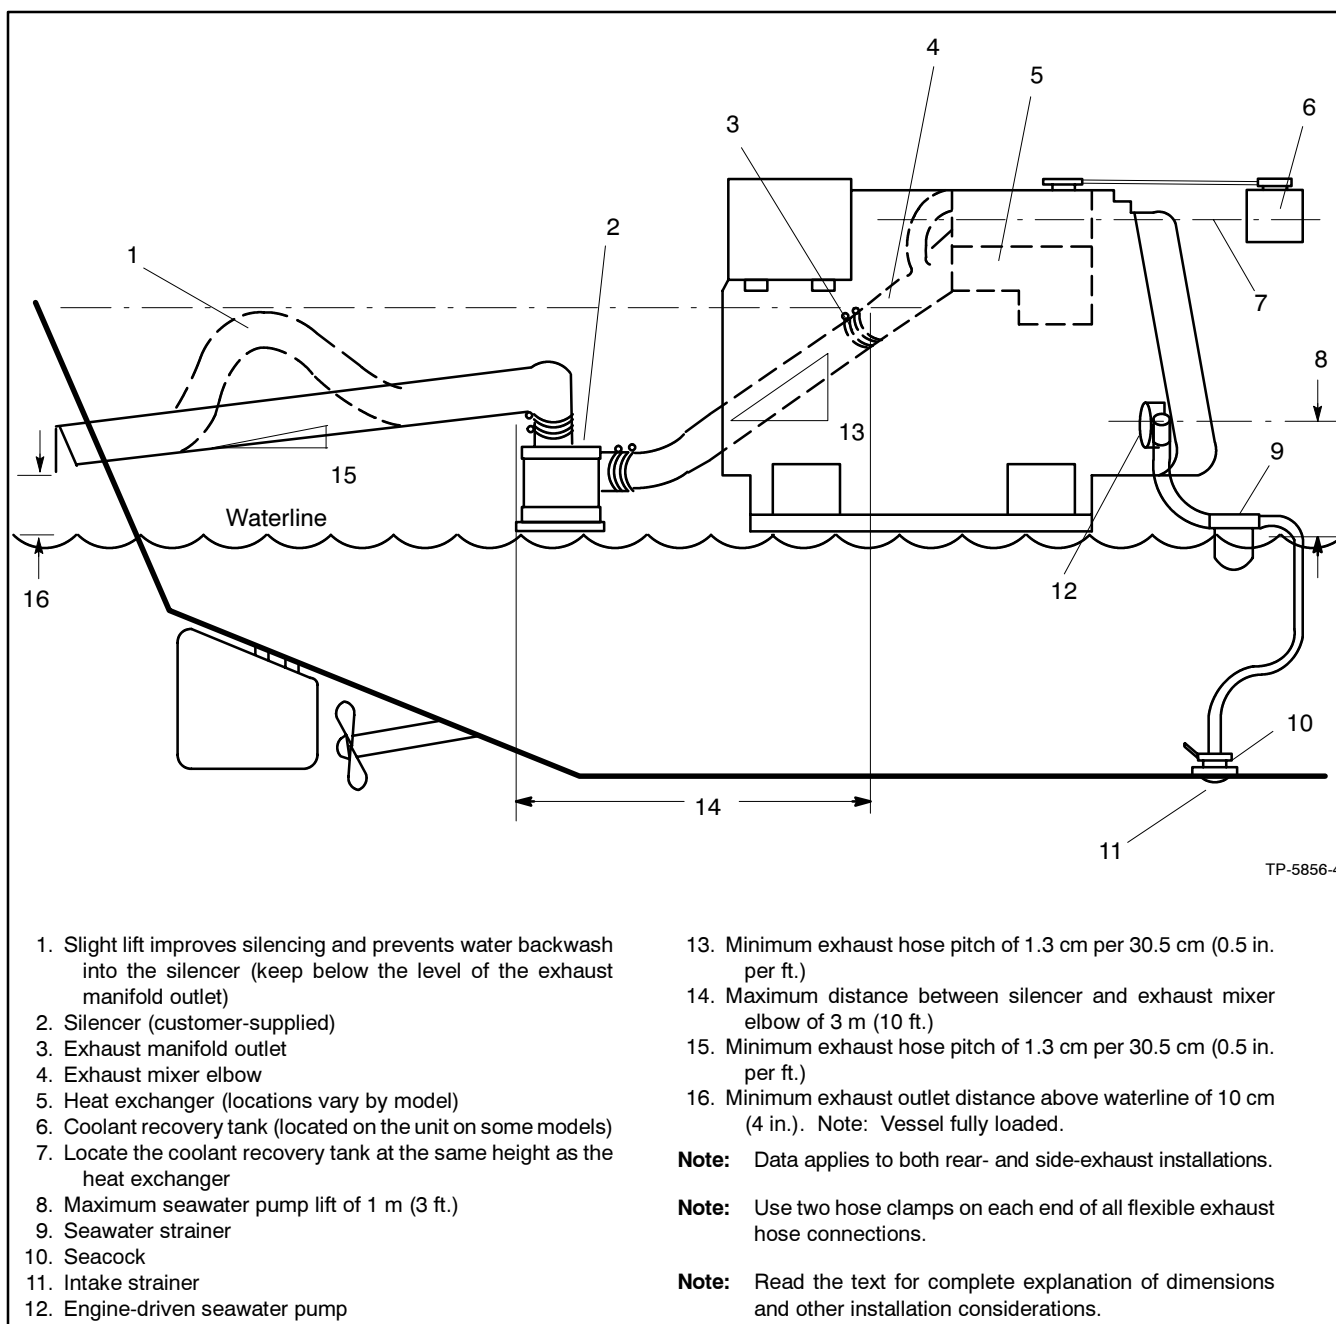

Figure 4-4 Typical Above-Waterline Installation
Locate the exhaust outlet at least 10 cm (4 in.) above the waterline when the craft is loaded to maximum capacity. Install an exhaust port with the flap at the exhaust (transom) outlet to prevent water backup in following seas or when moving astern (backward). A lift in the exhaust piping before the piping exits the craft prevents backwash. See Figure 4-4, item 1. Support the exhaust lines to prevent the formation of water pockets.
Install a customer-supplied silencer with the silencer's outlet at a maximum of 3 m (10 horizontal ft.) from the center of the engine's exhaust outlet. See Figure 4-4. Mount a typical silencer with the inlet and outlet horizontal and with the drain plug down. Use an exhaust hose pitch of at least 13 mm per 30.5 cm (0.5 in. per running foot). Some silencers require two support brackets or hanger straps for installation to stringers or other suitable structure. Follow the instructions provided with the silencer. Install any lift (see Figure 4-4, item 1) in the exhaust line below the engine exhaust manifold outlet.